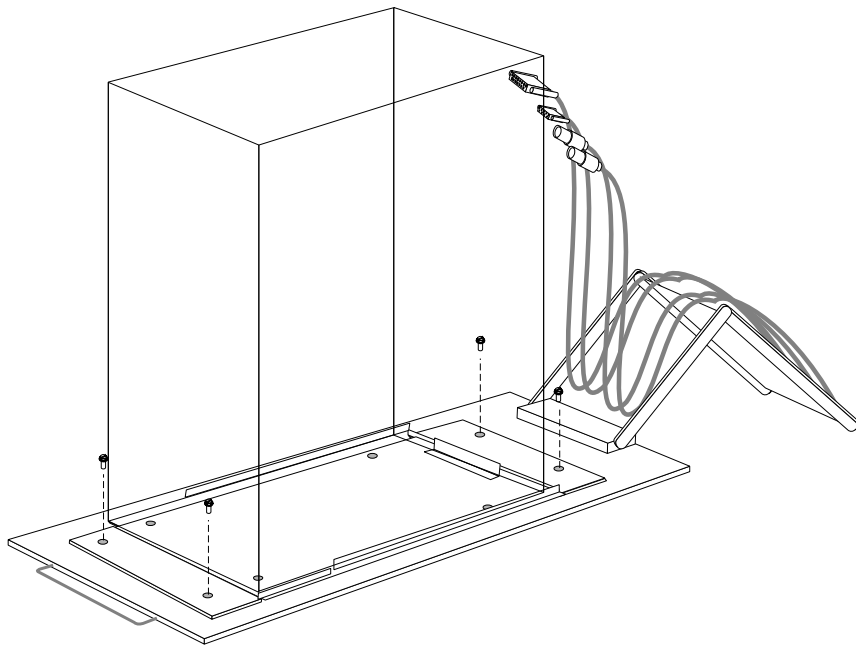

Figure 21. Installing a PC Server 300
7. Locate the four screw holes at the corners of the mounting plate. Be sure that they are lined up with the corresponding holes on the sliding tray (see Figure 21).